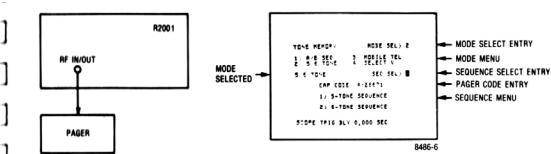

Figure 4-10. Test Setup for 5/6 Tone Pager with CRT Display
- Test 5/6 Tone Pager decode and alert function (Figure 4-10).
- Connect the pager as shown in Figure 4-10 and set the MODULATION switch as desired to activate the pager under test.